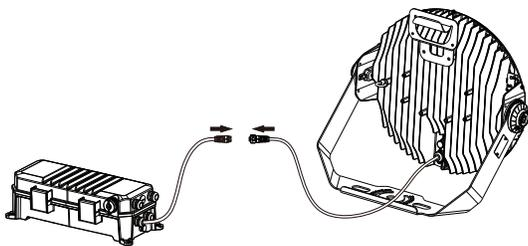

Fig. 22
- 1.2. Disconnect the output cord that goes from the driver box to the fixture head by twisting and unplugging (Fig. 22).
- 2.2. Disconnect the output cord that goes from the driver box to the fixture head by twisting and unplugging (Fig. 22).